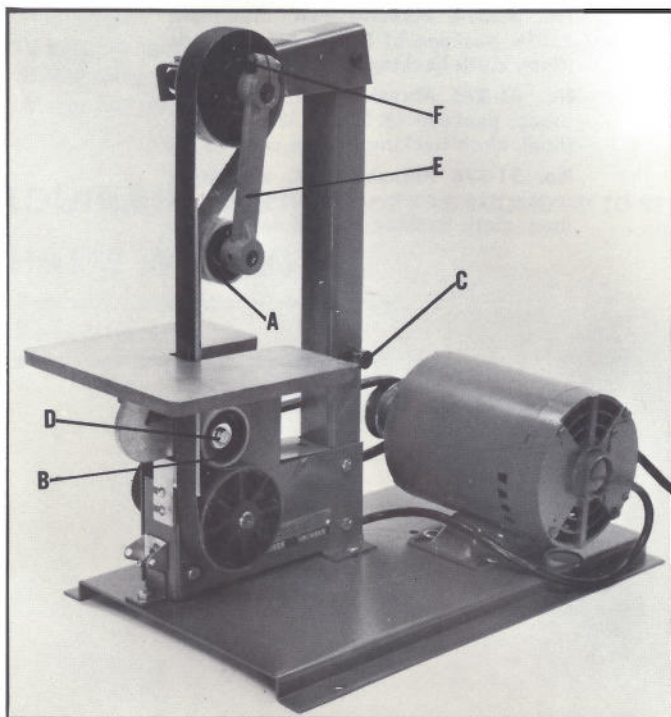

Fig. 20
When doing inside sanding or grinding, both idler pulleys (A and B) Fig. 20 are used. Idler pulley (B) is moved from the shaft (C) and placed on shaft (D) and idler pulley (A) is moved to the front as shown in Fig. 20. CAUTION: BEFORE MOVING IDLER ARM (E) FIG. 20, LOOSEN SCREW (F). The belt is run on the outside of the two larger pulleys and to the inside of the two idler pulleys. The platen and table can be left on the machine or removed depending on the work you are doing. When doing inside sanding or grinding a 44" abrasive belt is recommended instead of the standard 42" belt, to provide more room between the table and idler pulley (A).
When heavy pressure of the work piece against the belt is required, the platen can be supported by the pulley (A), as shown in Fig. 20. This can be done whether the belt is threaded over the pulley (A) as shown, or whether other belt arrangements are used.